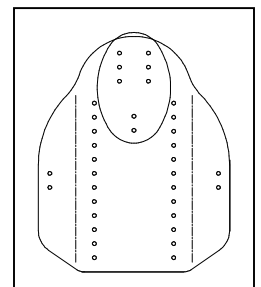
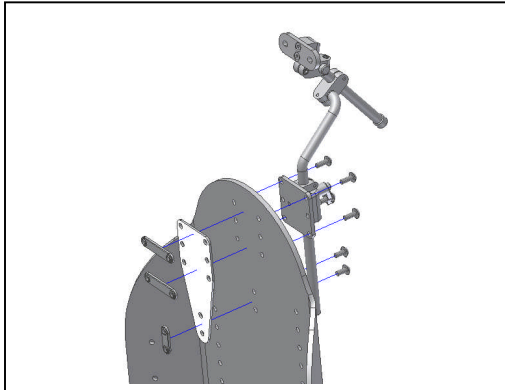

Figure 4
Figure 5
If installing the Headrest assembly, first remove the carrying strap weld nut. Then punch out the holes indicated, located at the top/center of the shell (see Figure 4). Finally attach the headrest using the reinforcement plate (K) and weldnuts as seen in Figure 5. Headrests mounted without reinforcement plate may void warranty.